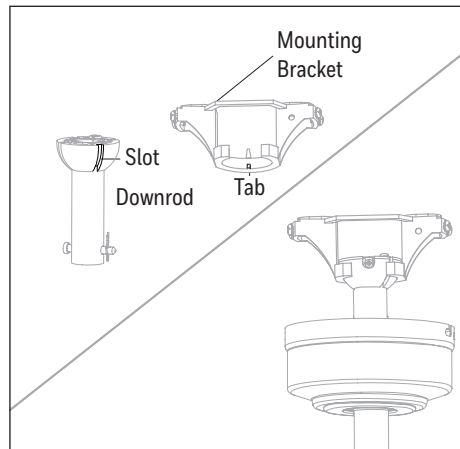

Figure 3.5
5. Install the ball end of the downrod into the opening of the mounting bracket (Figure 3.5). **WARNING:** Failure to align the slot in the ball with the tap on the mounting bracket may cause the fan to fall, which could result in injury or death.